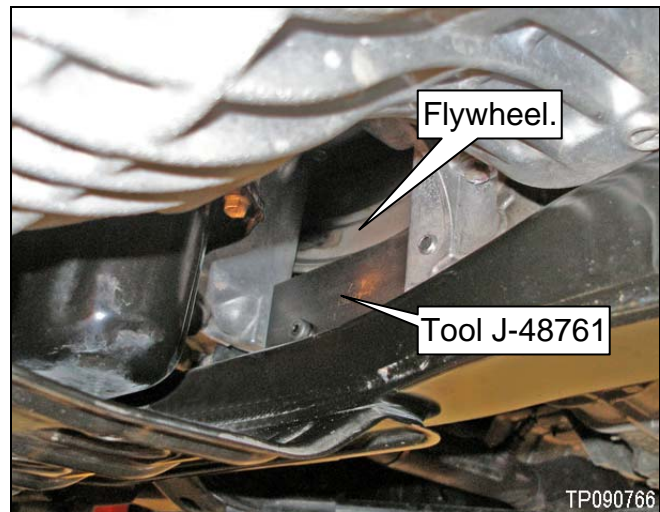

Figure 1
- Use Tool J-48761 to secure the flywheel / flex plate when removing the crankshaft pulley and camshaft sprockets. Figure 1 shows J-48761 installed on an AWD vehicle.